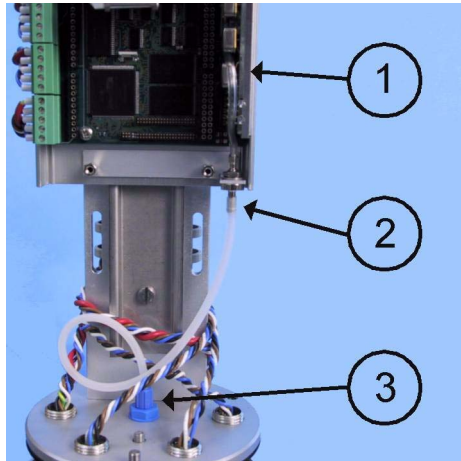

Figure 40 Pressure Sensor Tube Connection
3. When you have the pressure sensor (number 1 in Figure 40 on page 60) installed on the logger, attach the tube that comes from the blue inlet (3) into the outlet (2) of the logger housing. The tube should